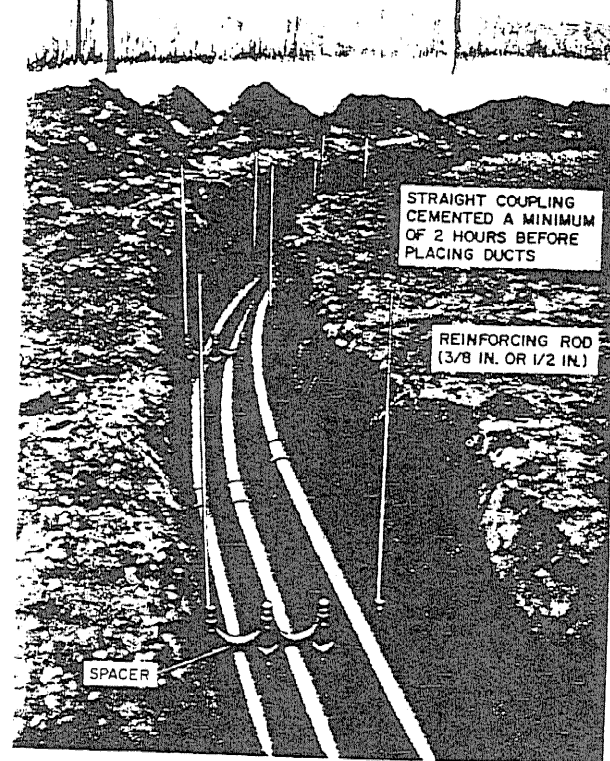

Fig. 7—Partially Completed Bend
5.08 Straight lengths of conduit can be used to construct horizontal or vertical bends or sweeps with a radius of 40 feet or more. Duct joints for the entire bend section should be made outside the trench at least 2 hours before placing to help ensure an effective joint. An example of a partially completed bend constructed with straight lengths of conduit is shown in Fig. 7.